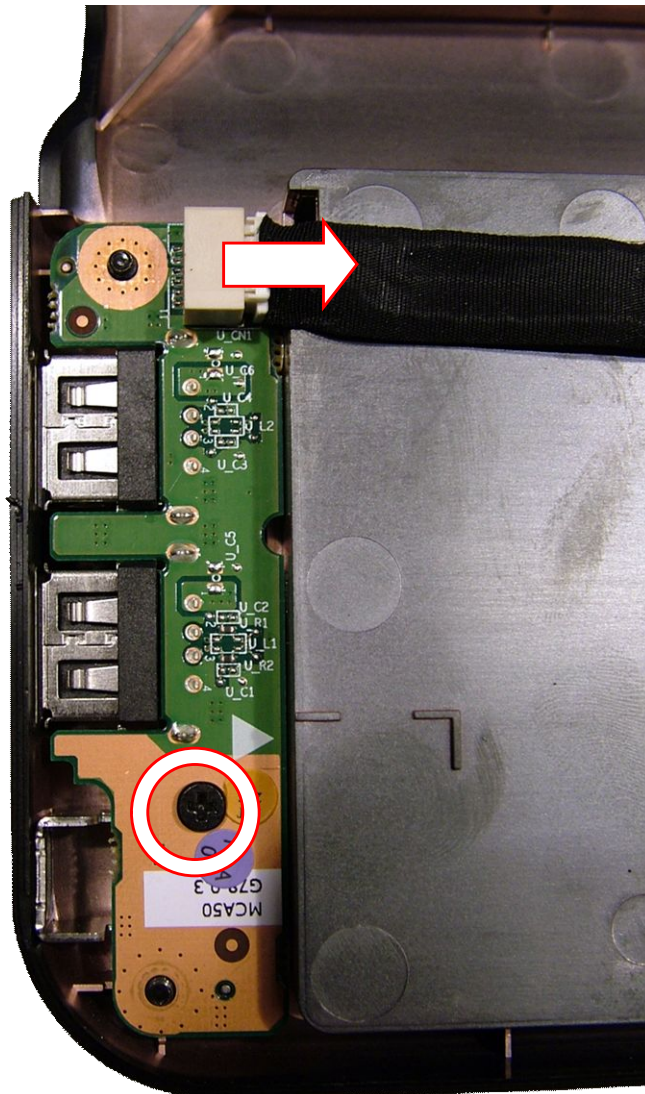

Fig. 32 Location of USB board cable and screw.
2. Disconnect the cable from the USB board (see Fig 32).
1. Disconnect the cable from the USB board (see Fig 32).